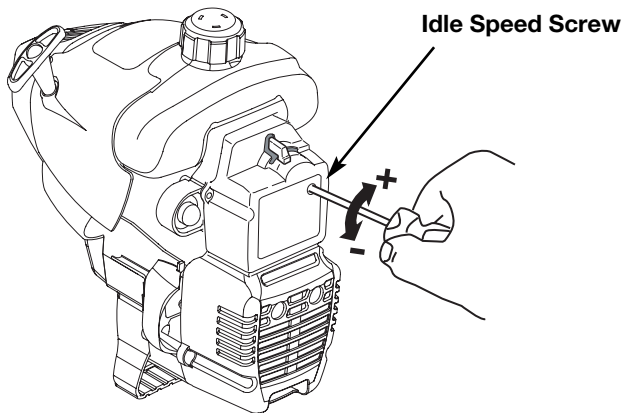

Fig. 38
The idle speed of the engine is adjustable through the air filter/muffler cover (Fig. 38).
2. Release the throttle trigger and let the engine idle. If the engine stops, insert a small phillips or flat blade screwdriver into the hole in the air filter/muffler cover (Fig. 38). Turn the idle speed screw in, **clockwise**, 1/8 of a turn at a time (as needed) until the engine idles smoothly.